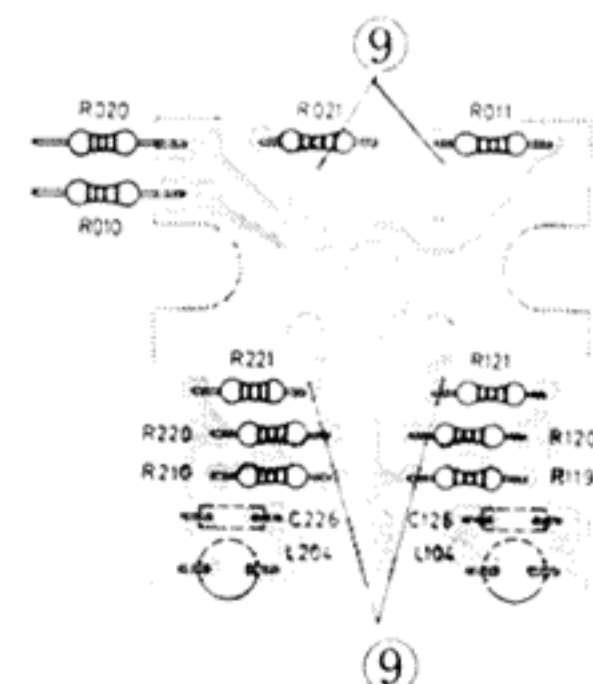

Fig. 10-6
- 6) Pin jack circuit board (Fig. 10-6)